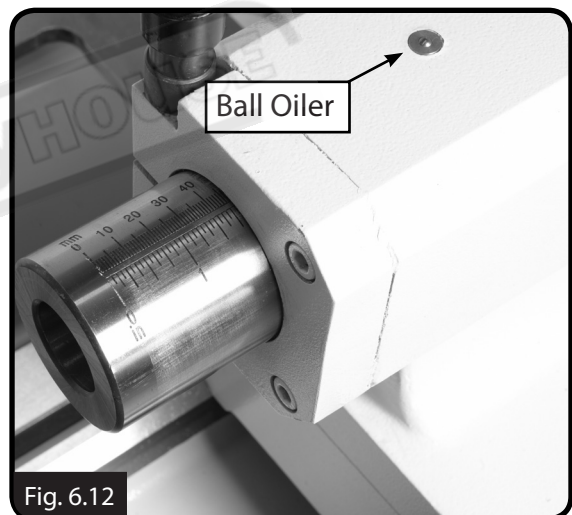

Fig. 6.12
- ☐ Tailstock ball oilers (Fig. 6.12)